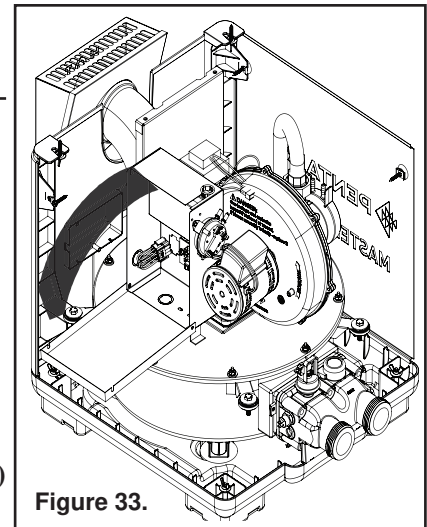

Figure 33.
3. Open control box cover (see Figure 33).
- Connect wires between the control board terminals on the heater and the external relays, as shown in Figure 33. Use at least 2 relays per heater, to allow for an "OFF setting" on each heater mode. Select relays that can handle logic level switching. **DO NOT** apply line voltage to control board terminals.